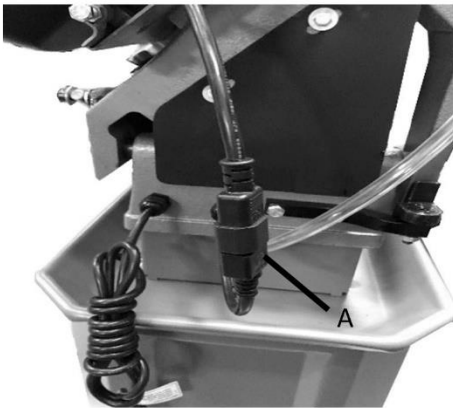

Figure 6-10-1: plug connection
- f) Connect the male/female plug and ensure that it is always tight (A, Figure 6-10-1)